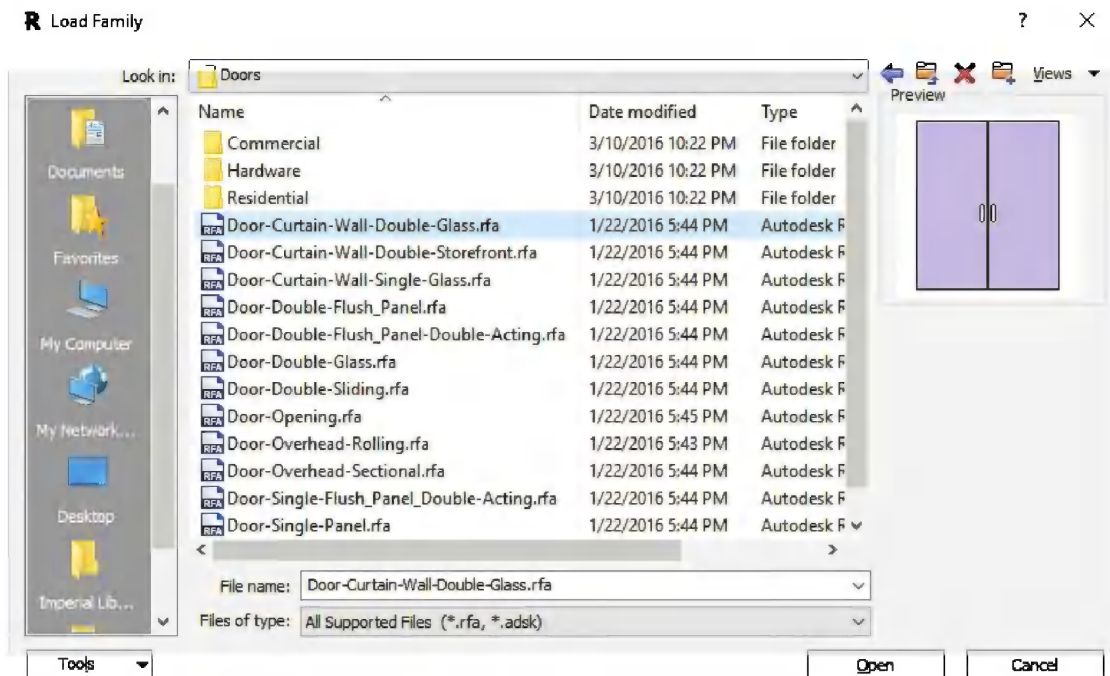

FIGURE 3-5.2 Door families on hard drive
4. Open the **Doors** folder and then select **Curtain Wall Dbl Glass.rfa**, and then click **Open** (Figure 3-5.2).